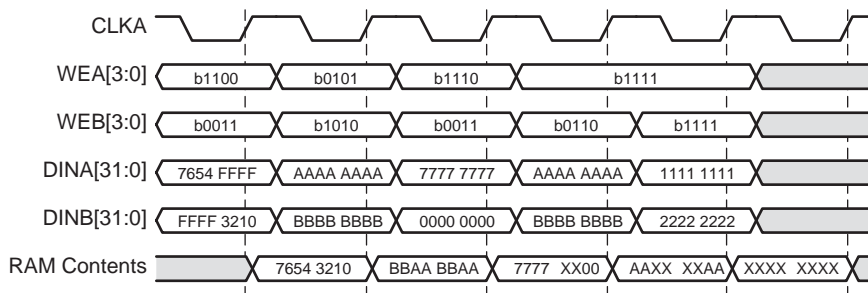

Figure 32: Write-Write Collision Example
- **Using Byte-Writes.** When using byte-writes, memory contents are not corrupted when separate bytes are written in the same data word. RAM contents are corrupted only when both ports attempt to Write the same byte. Figure 32 illustrates this case. Assume ADDRA = ADDRB = 0.